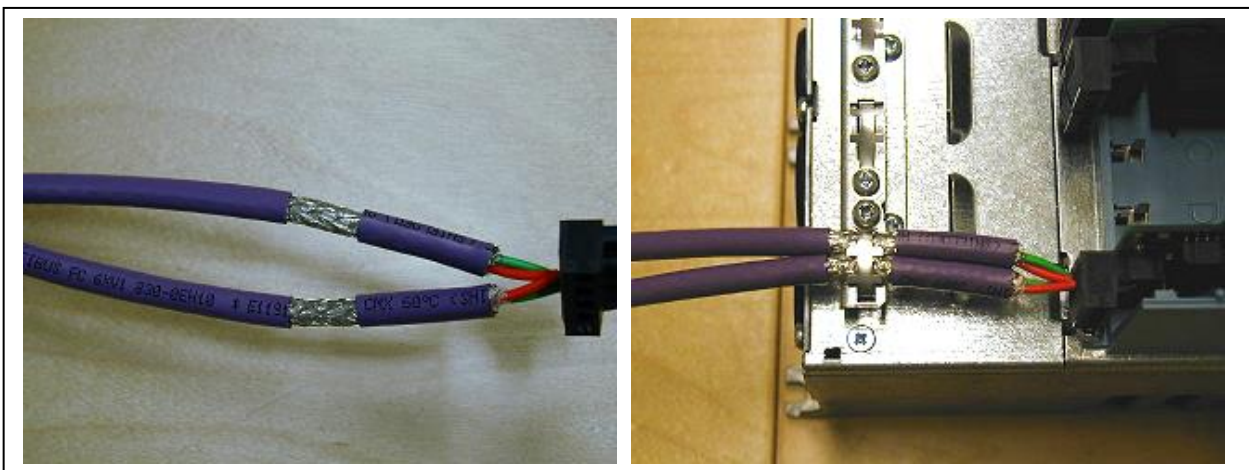

Figure 4-4.
- Strip about 5 cm of the CANopen cable in the same way as shown in Figure 4-4 but **cut off the grey cable shield**. Remember to do this for both bus cables (except for the last device).